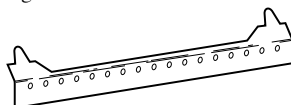

**Figure 5 - Attaching Thermostat Sensing Bulb**
1. Place clamp on thermostat sensing bulb as shown in Figure 5. Clamp is provided in hardware package.
2. Snap clamp into upper mounting hole as shown in Figure 5. Mounting hole is located on lower left edge on back of heater. Make sure the thermostat sensing bulb is pointing up.